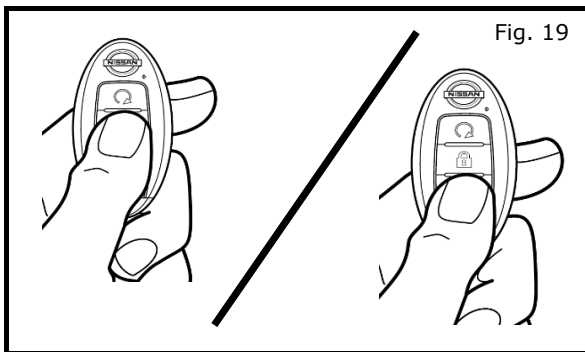

Fig. 19
- a) From inside vehicle press Lock on Fob 1 and Unlock on Fob 2 and confirm that vehicle responds accordingly as shown Fig. 19.
- b) From inside vehicle press Lock on Fob 2 and Unlock on Fob 1 and confirm that vehicle responds accordingly as shown Fig. 19.